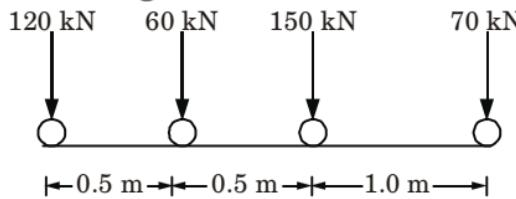

Fig. 4.
- b. The load system shown in Fig. 4 moves from left to right on a girder of span 10 m. Find the absolute maximum bending moment for the girder.